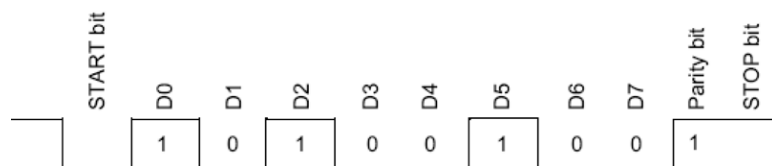

Figure 3: Even Parity Bit
A parity bit is used to provide error checking for a single bit error. When a single bit is used, parity can be either even or odd. Even parity means that the number of ones (1) in the data and parity add up to an even number and vice-versa. The ninth data bit can be used as a parity bit if the data format requires eight data bits and a parity bit as shown in Figure 3. See Table 5 for supported serial data formats.